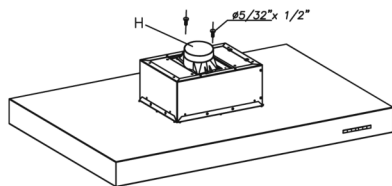

Fig. 1
(Fig. 1)
- Screw on the connection box following Fig. 1 with the two 1/8" x 11/16" screws supplied in the box of accessories